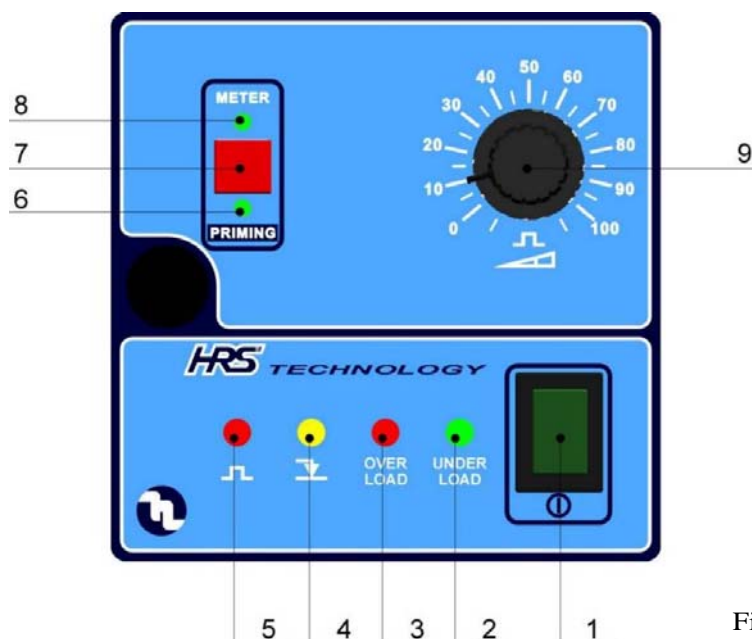

Fig. 10
7.1 - COMMAND (Fig. 10)
7.4 - PUMP CONTROLS DESCRIPTION (Fig. 10)
- **ON/OFF SWITCH (1)**
As the system is quite robust there are no apparent mechanical problems. Occasionally there might be a loss of liquid from the nipple because the tube nut has loosened, or more simply the discharge tubing-has broken. Very rarely there may be losses caused by the breakage of the membrane, or by the membrane seals in which case they have to be replaced by disassembling the four screws of the pump head (fig. 10), when re-mounting the pump head ensure that the screws are replaced properly, along with "O" ring. After repair, the metering pump will need to be cleaned of additive residues which can damage the pump casing.
① THE METERING PUMP GIVES PULSES BUT THE ADDITIVE IS NOT INJECTED
- a. Dismount the suction and discharge valves, clean them and replace, see position (fig. 10). Should the valves be swollen, check valves material against our chemical resistance compatibility chart and fit correct valves. Standard valves are Viton. Upon request ball check valve, can be supplied.*